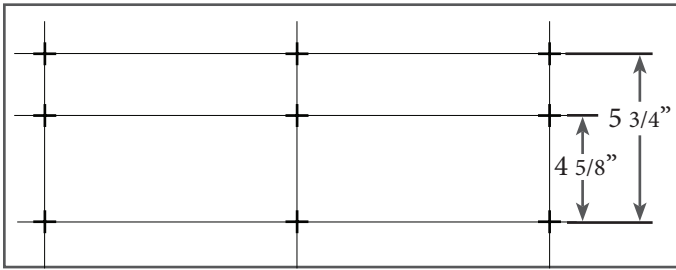

Figure 3
6. Make two marks above each mark made with the track, one 4-5/8" above the original mark, the other 5-3/4" above the original mark (Figure 3).